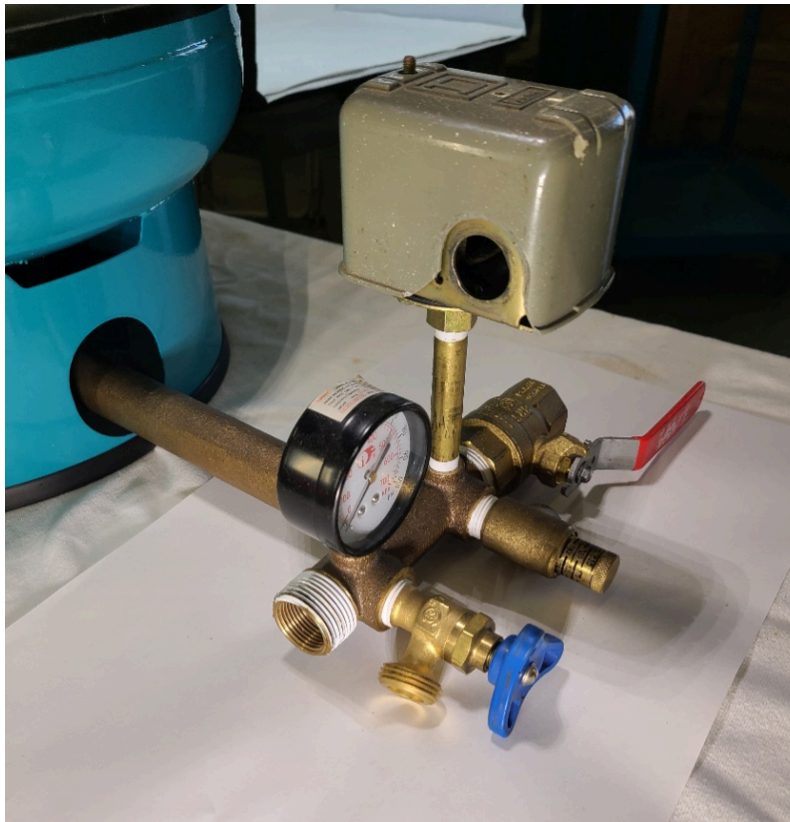

Figure 65. Connected tank tee
After the pump has been test run and the water is clear connect the pipe and fittings to the tank. The system should include at least one union for service, tank tee, gauge, check valve, pressure relief valve, drain valve, pressure switch or (VFD pressure sensor), and a valve to isolate the service line from the pressure tank. By using an appropriate length tank tee you can easily incorporating all of these components into the system at one convenient location (Figure 65).
- Figure 65. “Connected tank tee” by Rod Lidstone is licensed under a CC BY-NC-SA licence.